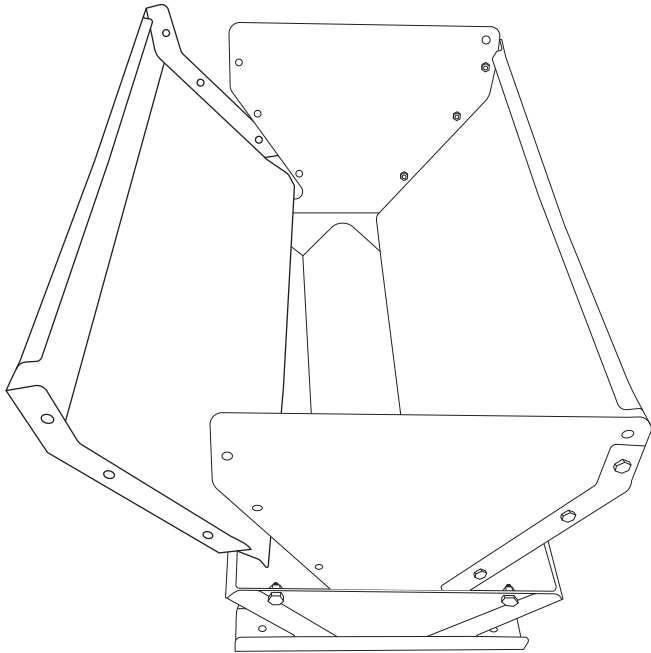

Figure 3
3. Install **Front Panel** (E) onto the Assembly using 6 **Bolts** (H1) and 6 **Nuts** (H2). Tighten to secure. (Figure 3)